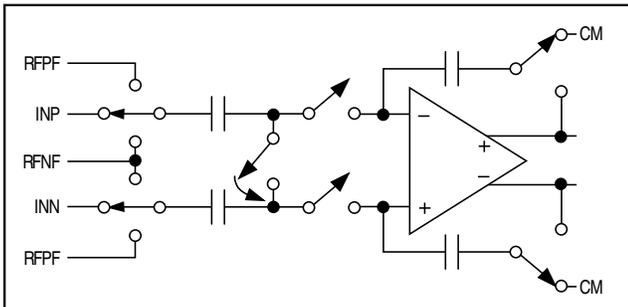

Figure 2. Simplified MDAC Architecture
Fully differential switched-capacitor circuits (SC) are used for both the reference and analog inputs (Figure 2). This allows either single-ended or differential signals to be used in the reference and/or analog signal paths. The signal voltage on these pins (INP, INN, RFN_, RFP_) should never exceed the analog supply rail, AVDD, and should not fall below ground.